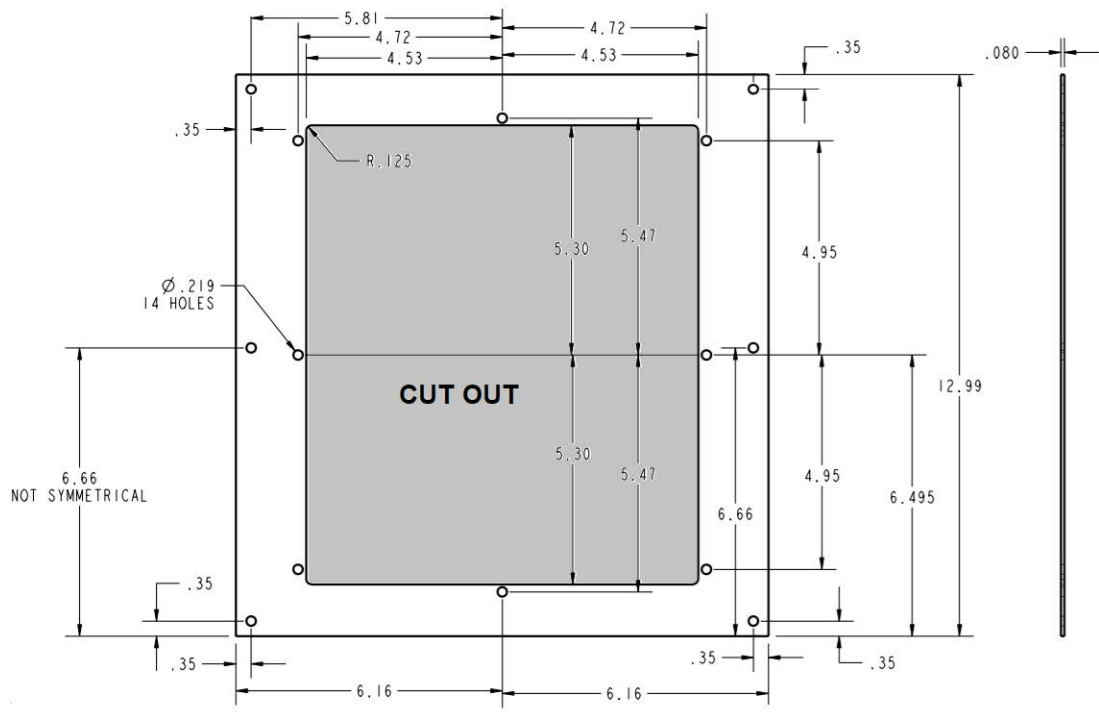

Figure 3 - Mounting Plate P/N 603-0110 **Not to Scale**
2. Remove the plate and cut the hole using the marked center area of the plate Figure 3 on page 3.